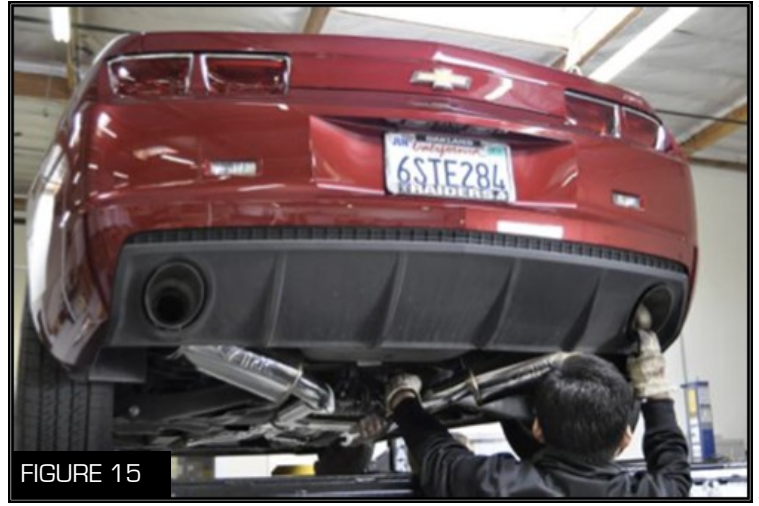

FIGURE 15
10. [N-II Shown] While one person aligns the mufflers and tips, another person should tighten down all of the nuts and bolts to the proper torque specs (Figure 15).